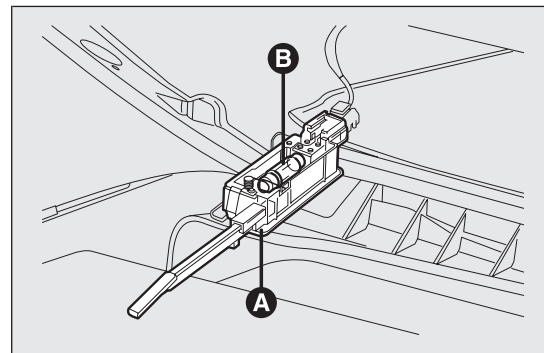

fig. 182
- open the glove compartment and extract roof light A fig. 182;